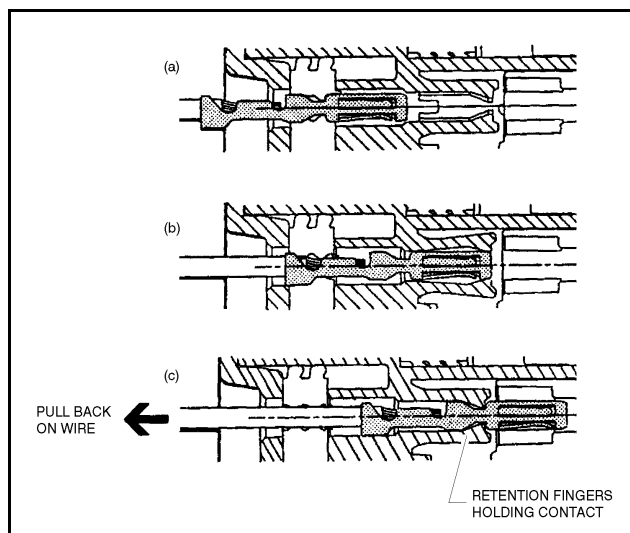

Figure 7-7. Connector Assembly (2 of 4)
1. To insert a contact, push it straight into the appropriate circuit cavity as far as it will go (See Figure 7-7., Connector Assembly (2 of 4)).
2. Pull back on the contact wire with a force of 1 or 2 lbs. to be sure the retention fingers are holding the contact (See Figure 7-7., Connector Assembly (2 of 4)).